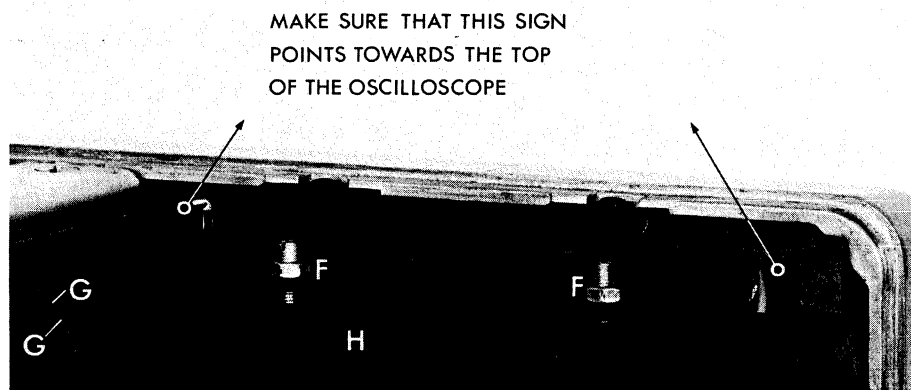

Fig. 3.18. Dismantling
IMPORTANT: Take care that the sign on the lamp holder points towards the top of the oscilloscope in order to avoid short circuits (Fig. 3.18.).
- Loosen the 2 adjusting screws F (Fig. 3.18.)
- Unplug both wires G (Fig. 3.18.)
- Adjust screws F (Fig. 3.18.) in such a way that the tube face fits optimally in the mask